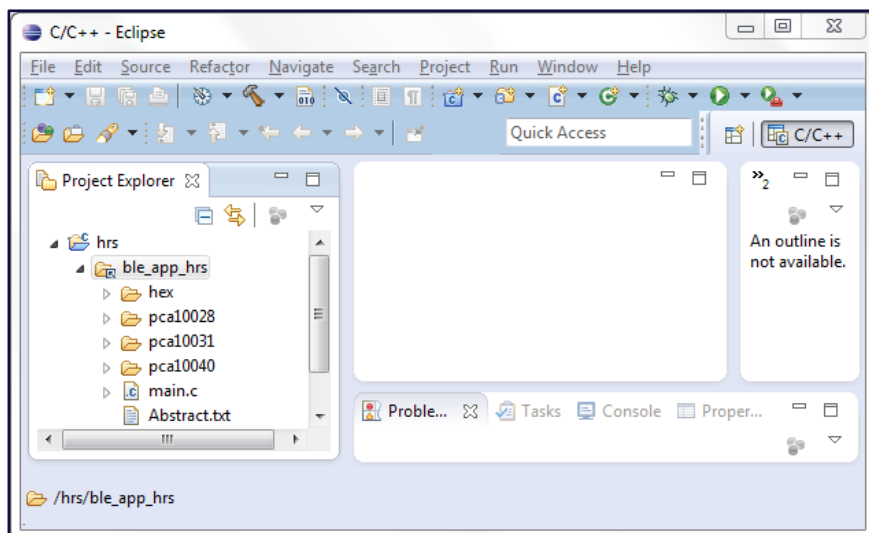

Figure 18: Project files and folders added in Project Explorer
9. The header and source files should now appear within the project (Figure 18).